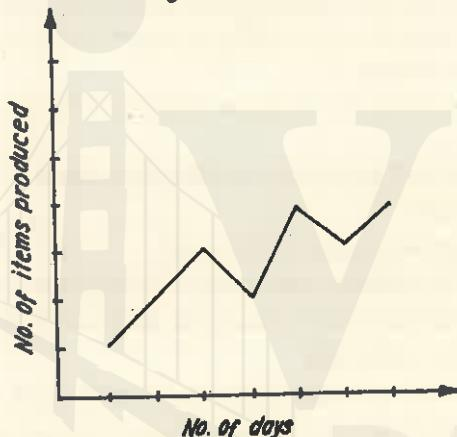

Fig. 7.29. A curve chart.
2. **A Curve Chart** is a graph between two variables (like, number of days and number of items produced) marked along X and Y axis. As the days pass, the number of items being produced are marked over the graph. When all such points are joined they indicate the production trend (See Fig. 7.29).